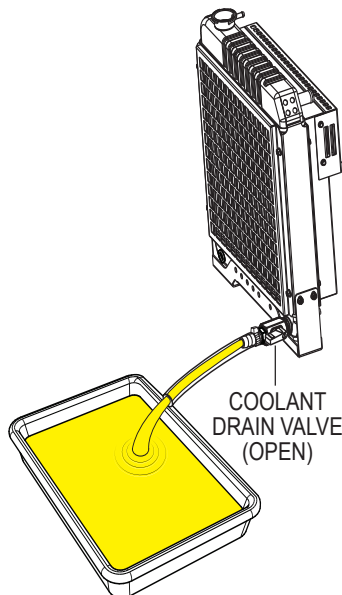

Figure 75. Draining The Engine Coolant
2. Open the cabinet door and place the **coolant drain valve** in the **OPEN** position (Figure 75) and allow the coolant to drain into a suitable container.